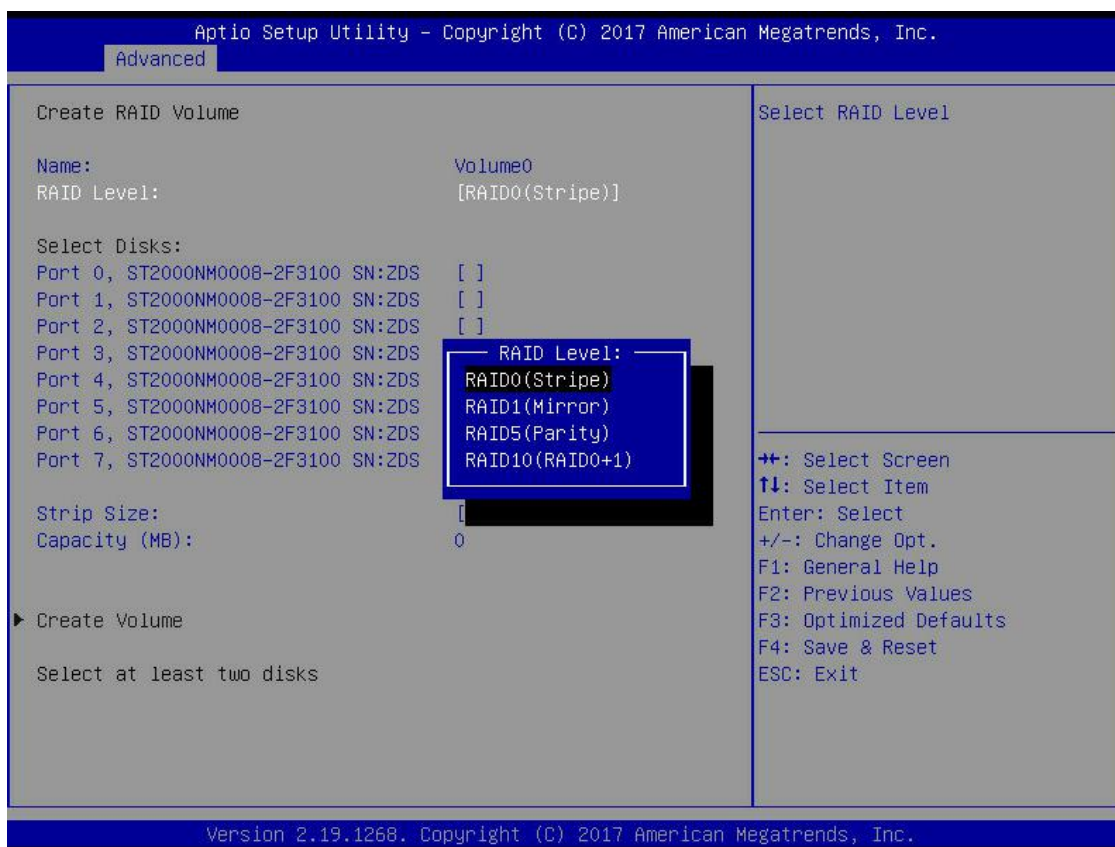

Fig. 6.6
- c) RAID Level: select the RAID level, as shown in Fig. 6.6